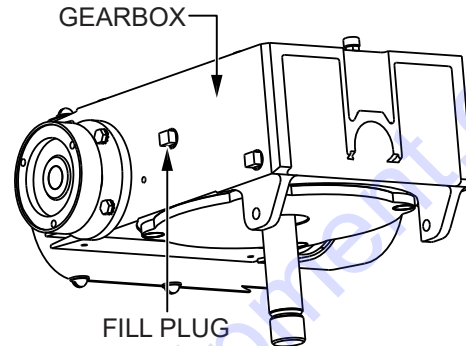

Figure 11. Gearbox Oil Plug/Sight Glass
1. Check the gearbox oil level in each gearbox (Figure 11) by removing the fill plug and visually confirming the oil level.